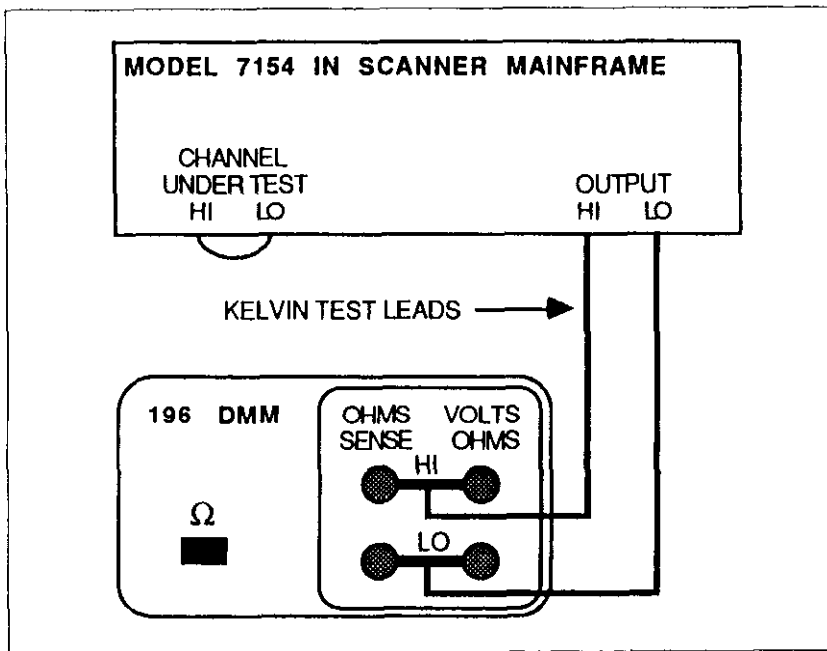

Figure 3-1. Contact Resistance
1. Set up the equipment as shown in Figure 3-1. Short the HI terminal to the LO terminal of each channel. Attach two copper wires to the output HI and LO terminals.